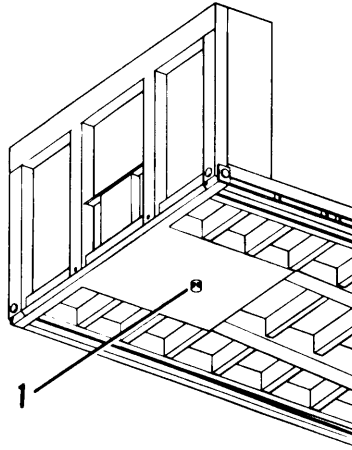

Figure 2-7. Kingpin
- b. Protrudes from the center of the fifth wheel upper plate of the semitrailer (1, fig. 2-7).